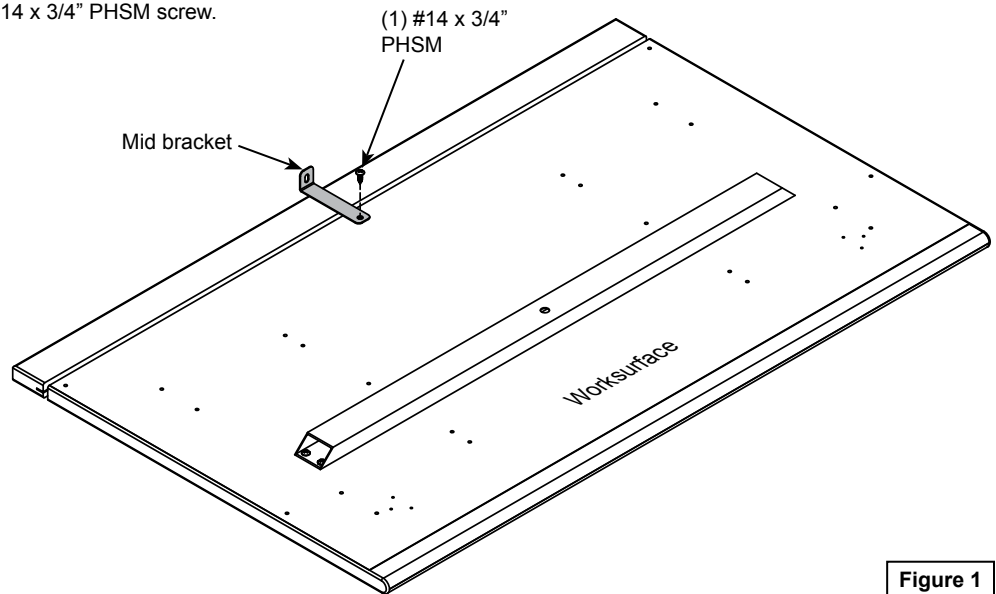

Figure 1
1. Place the workspace laminate side-down onto a non-abrasive surface like a carpeted floor. **Figure 1.**
2. Install the mid bracket as shown with (1) #14 x 3/4" PHSM screw.
2. Attach the panel to the inside of each leg with (4) 8-32 x 1/2" PH Thread cutting screws. **Figure 1.**